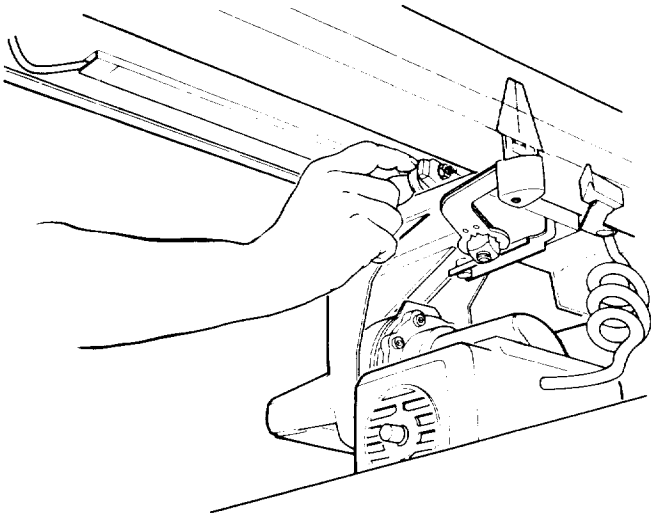

Fig. 77
12. Pinch the *front carriage bearing* with your fingers as tightly as possible while you pull the *motor* forward with the other hand. Try to keep the *carriage bearing* from turning. (Figure 77)